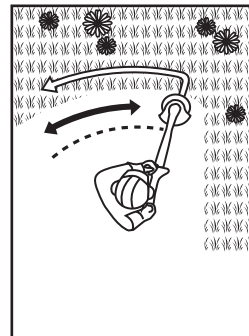

Fig. 16
6. Move the product with a slow regular arc from left to right before moving it back to the starting position before trimming the next area (Fig. 16).